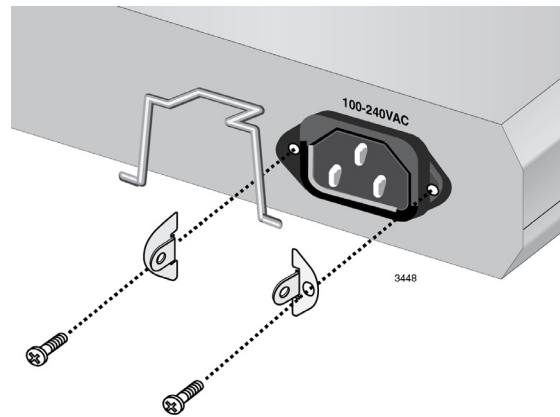

Figure 10. Installing Retaining Plates on the Power Connector
2. For the AT-FS926M only, perform the following and refer to Figure 10 on page 40. For all other switches, skip to Step 3.